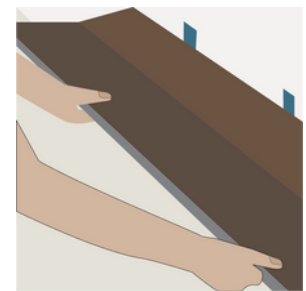

Fig. 2
- Place planks into the adhesive, pressing down firmly to ensure full contact. **(Fig. 2)**